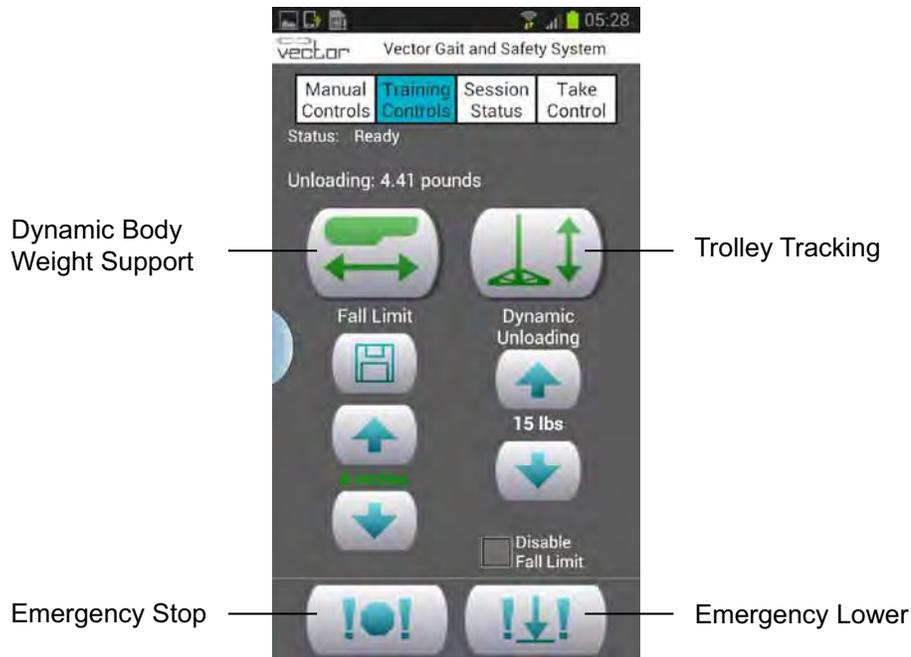

Figure 7-9: Training Controls Screen
6. Press the Training Controls tab. See Figure 7-9.
At any time the Emergency Stop or the Emergency Lower button can be pressed from the Remote Control. See Figure 7-9. When the Emergency Stop button is pressed the trolley stops moving and is in a locked position. The system is in Static Unload mode. When the Emergency Lower button is pressed the system will continue to winch down the rope until the patient has reached the ground or until the dynamic unload force goes below the minimum unload value.